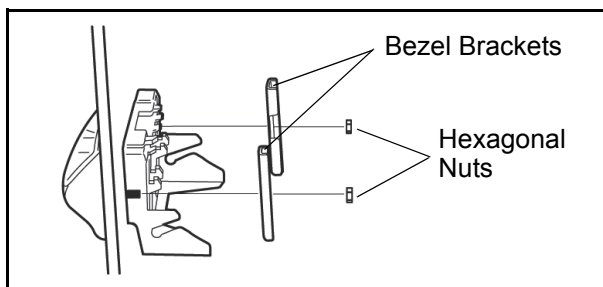

Figure 2-5 Mounting the Taiko Bezel
8. Set the Bezel in the door hole and attach the two (2) Bezel Brackets to the back side of the Bezel using the two (2) Hexagonal Nuts previously removed (See Figure 2-5).